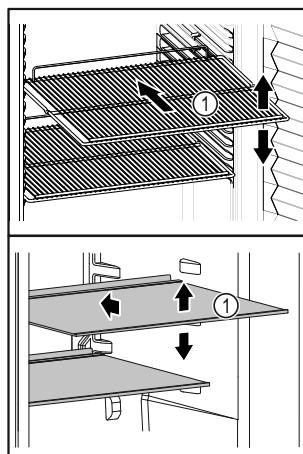

Fig. 59 Example illustration
- If shelves Fig. 59 (1) can be moved, adjust the shelves according to the height.